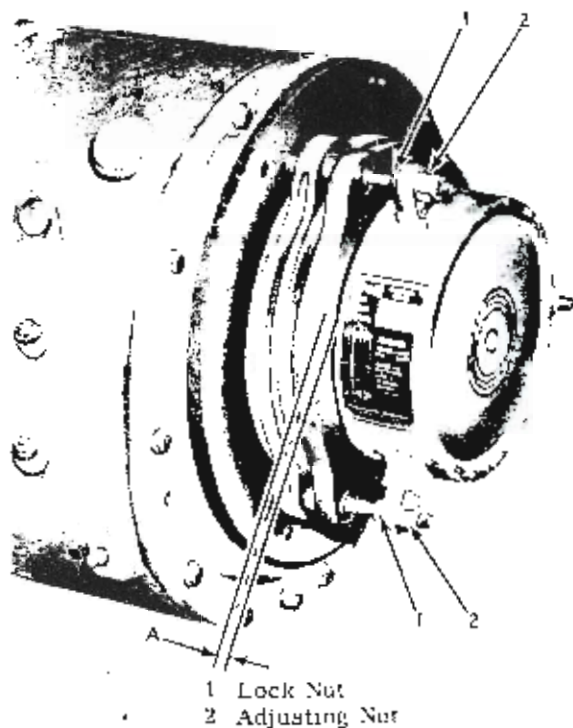

Figure 4. Magnetic Brake
5. Test the operation of the direct acting magnetic brake to determine if the correct adjustment of the brake is obtained. When the power is cut off, the travel of the load block must also stop. If this condition is not obtained, refer to Direct Acting Magnetic Brake, Figure 4, for adjustment.
The direct acting magnetic brake must be properly adjusted to stop the rotation when the power supply is shut off. A periodic check is necessary to determine if the brake requires adjustment. When distance A, Figure 4, is excessive, the following adjustment procedure is recommended: